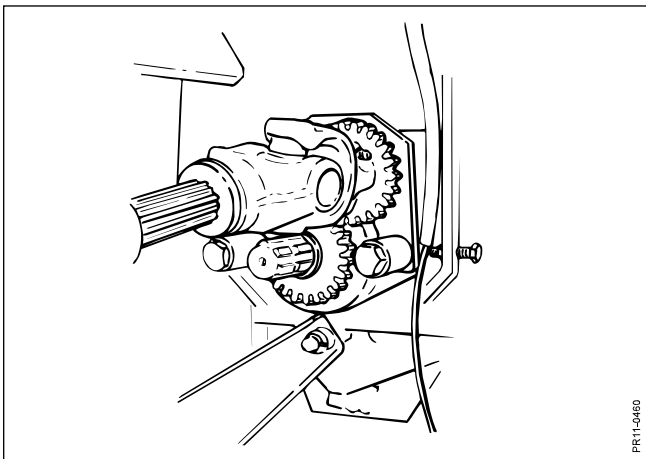

Fig. 4-15
**Fig. 4-15** 4. Mount the PTO drive shaft for the rotor on the free pin on the rotor housing. The PTO drive shaft must be fixed at pos. 2 whereby the rotor will rotate in the